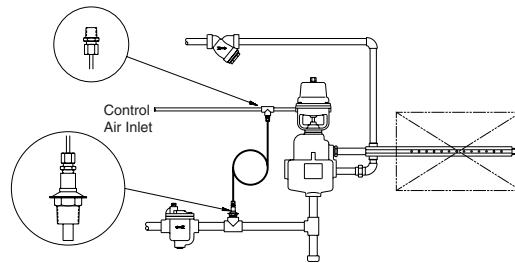

Figure 1. Temperature Switch Installation
**Installation:** The temperature switch air bleed line is installed into a tee ahead of the pneumatic operator in the air control line. A 0.02" restrictor is required in the air control line to restrict the pneumatic signal and ensure proper operation of the temperature switch. A pipe tee must be installed ahead of the steam trap in the condensate line for insertion of the temperature switch (1/2" Tee for model 90 and 3/4" x 1/2" Tee for all other models) (Fig. 1).